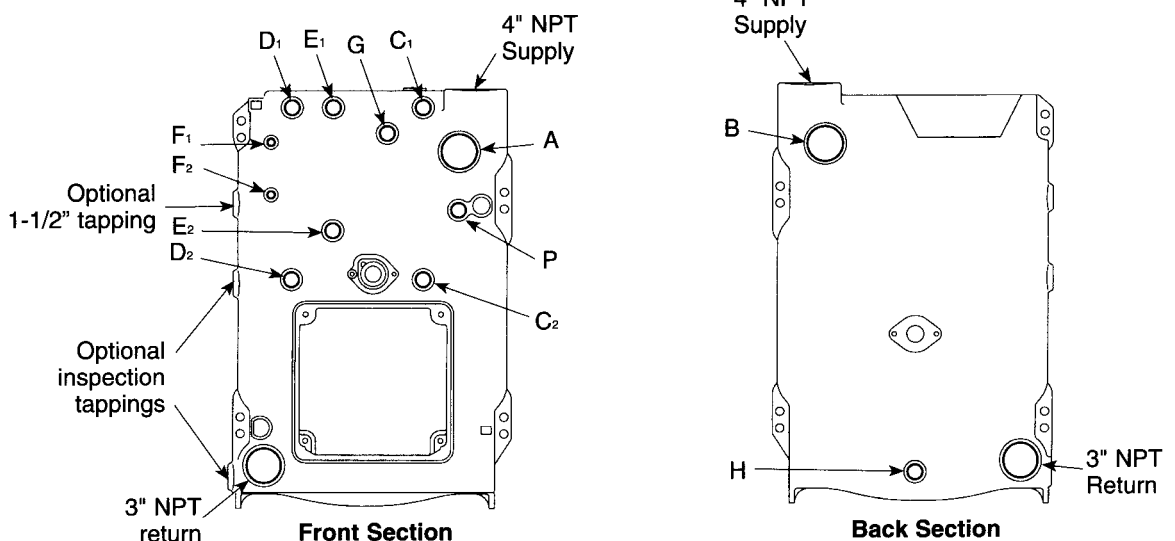

Figure 22 Steam Control Location
1. Install controls where shown in Control Tapping Table and Figure 22.